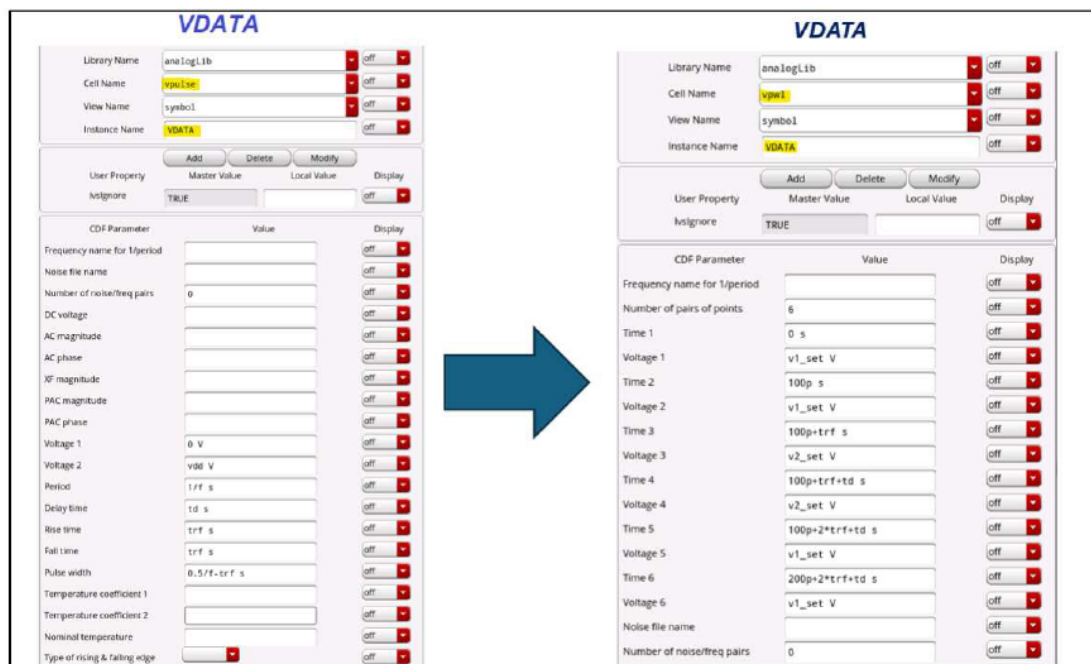

Figure 14. Change VDATA source from vpulse to vpwl
- Change the VDATA source from **vpulse** to **vpwl** and configure parameters as shown in **Figure 14**.